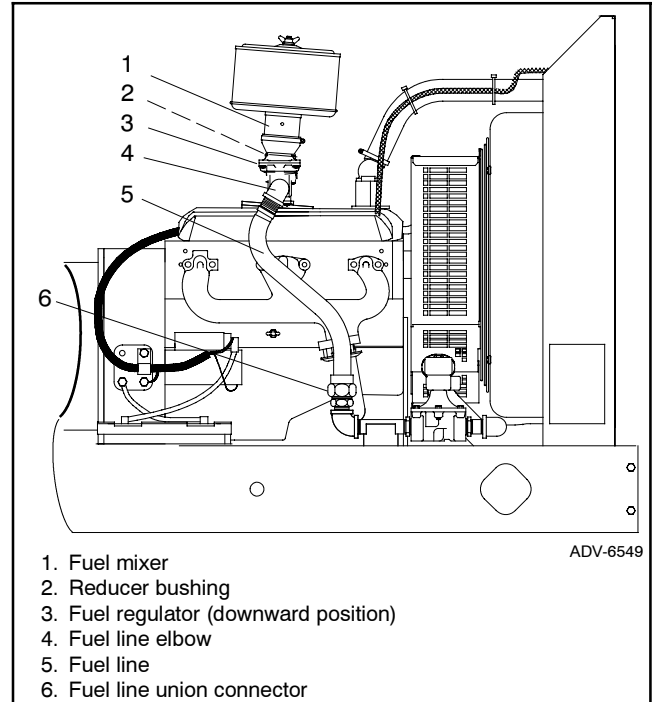

Figure 9-32 Fuel System Configuration, Typical
Figure 9-32 shows the natural gas configuration for the 50/60 kW models; the 30–45 kW and 80–125 kW models are similar.
- a. Remove the components from the engine as shown in Figure 9-32.